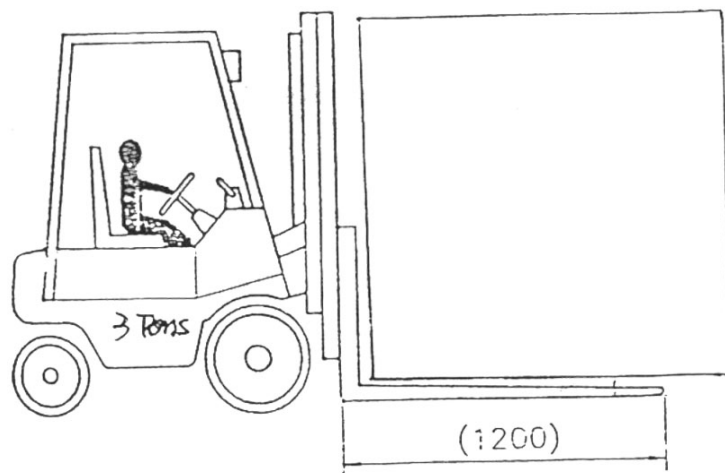

Fig7-1
- (1) Machine net weight: approx. 1010KGS
- (2) Prior to unpacking, transport may be using a forklift (Fig7-1)